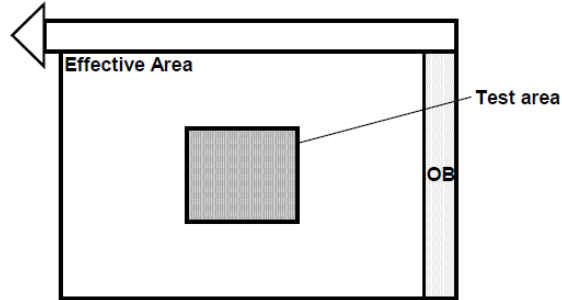

Figure 1. Saturation signal and Sensitivity test area.
- 3) See figure 1 below for the Test area